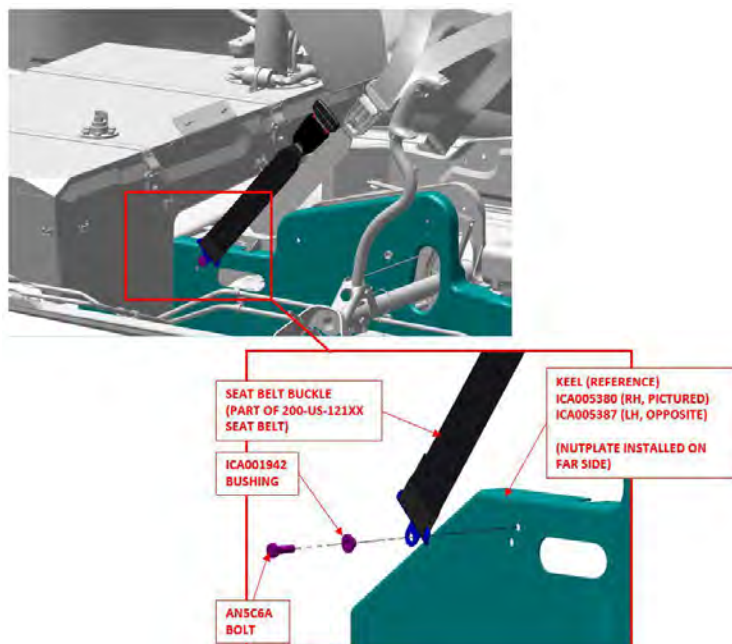

FIGURE 9-2
4. Use a 1/2 wrench to remove the bolt securing the inboard end of the seat belt where it attaches to the inboard keel structure; it is threaded into a nutplate. See Figure 9-2.
5. Install the seat belt buckle side of the belt assembly onto the inboard keel as shown in Figure 9-2. Torque the bolt to 90 in-lb_f.